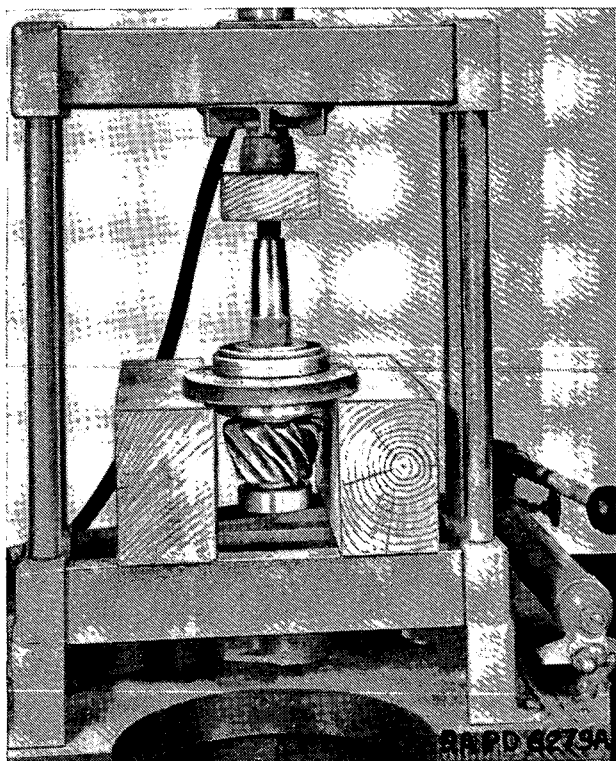

FIGURE 52.—Pressing off rear axle drive pinion bearing cage.
(2) Disassemble drive pinion. Follow steps in paragraph 14e (2) through (10) (figs. 52, 53, and 54).